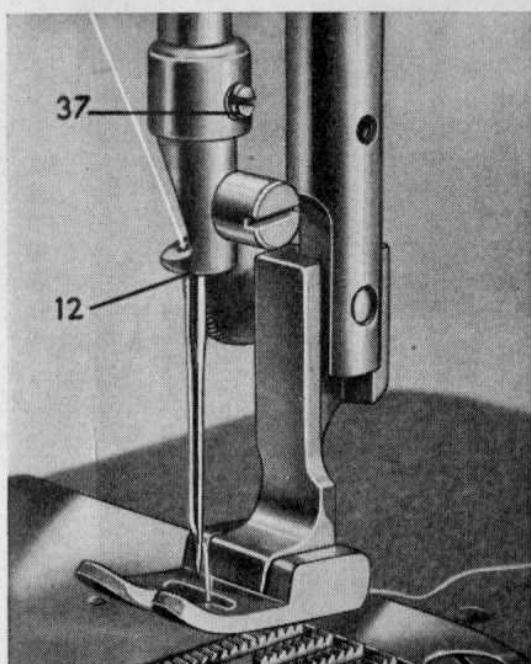

FIG. 55
a. Attaching the two-needle clamp: Turn handwheel toward you until needle reaches its highest point. Remove single needle clamp (12) used for all ordinary straight and zig-zag sewing (fig. 55) by loosening screw (37).